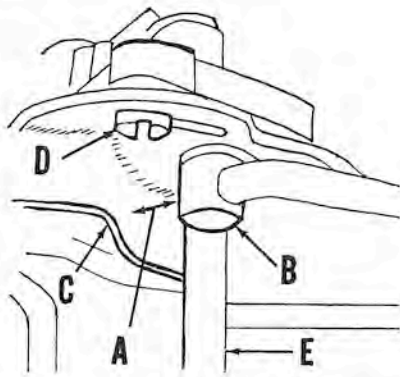

Fig. M48A — Synchronizing cam adjustment on 2 cylinder Merc 350. Distance A should measure 9/32-inch. Refer to Text.
Merc 350: To synchronize the linkage, first be sure that ignition timing is properly adjusted and maximum timing advance screw properly set. Check position of synchronizing cam (C—Fig. M48A) to be sure it is correctly positioned. Clearance (A) should be $\frac{9}{32}$ -inch when measured between nearest points of swivel link (B) and cam (C). To reposition the cam, loosen the two screws (D) and shift the cam in the slotted holes. NOTE: The cam is properly positioned at the factory, and no adjustment should be necessary unless throttle lever or synchronizing cam are renewed.